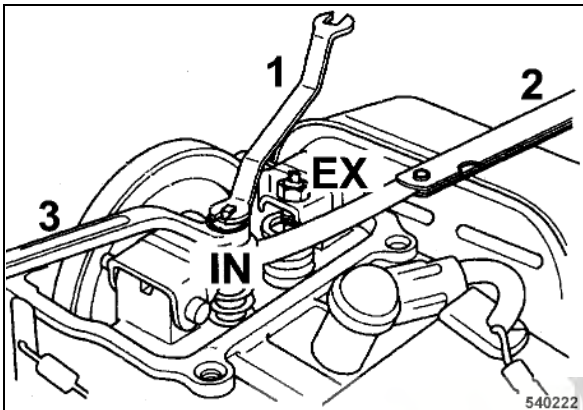

Fig. 48
- Measure the valve clearance between valve adjustment screw and valve with a feeler gauge (2) (Fig. 48).